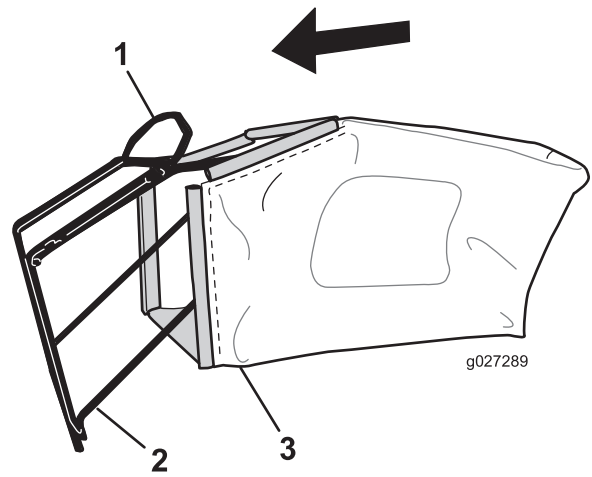

Figure 7
Note: Do not slip the bag over the handle (Figure 7).
1. Slip the grass bag over the frame as shown in Figure 7.